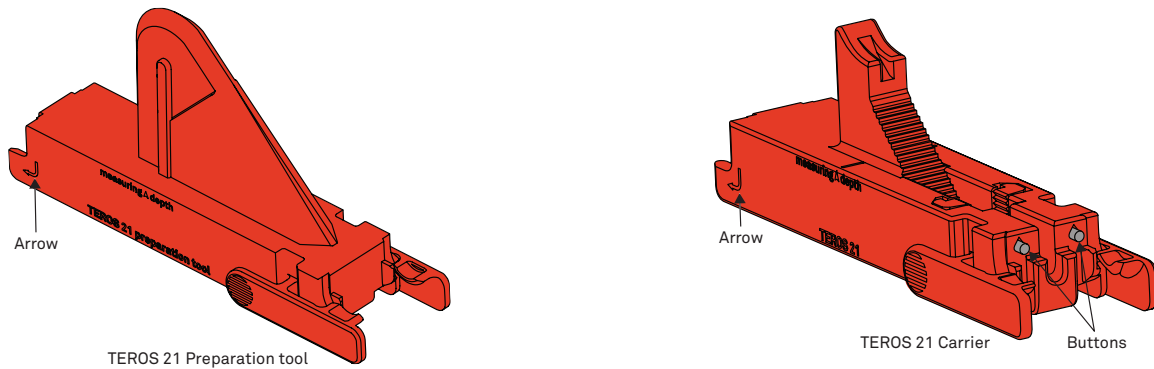

Figure 18 TEROS 21 preparation tool and sensor carrier
1. Select the preparation tool (Figure 18).
2. Find the **Arrow** at one end of the preparation tool (Figure 18).
2. Find the **Arrow** at one end of the TEROS 21 sensor carrier (Figure 18).
When the handle lever is raised to the vertical position, the carrier mount retracts and the two buttons (Figure 18) on the sensor carrier extend, holding the sensor in place. The carrier mount is in the retracted position.